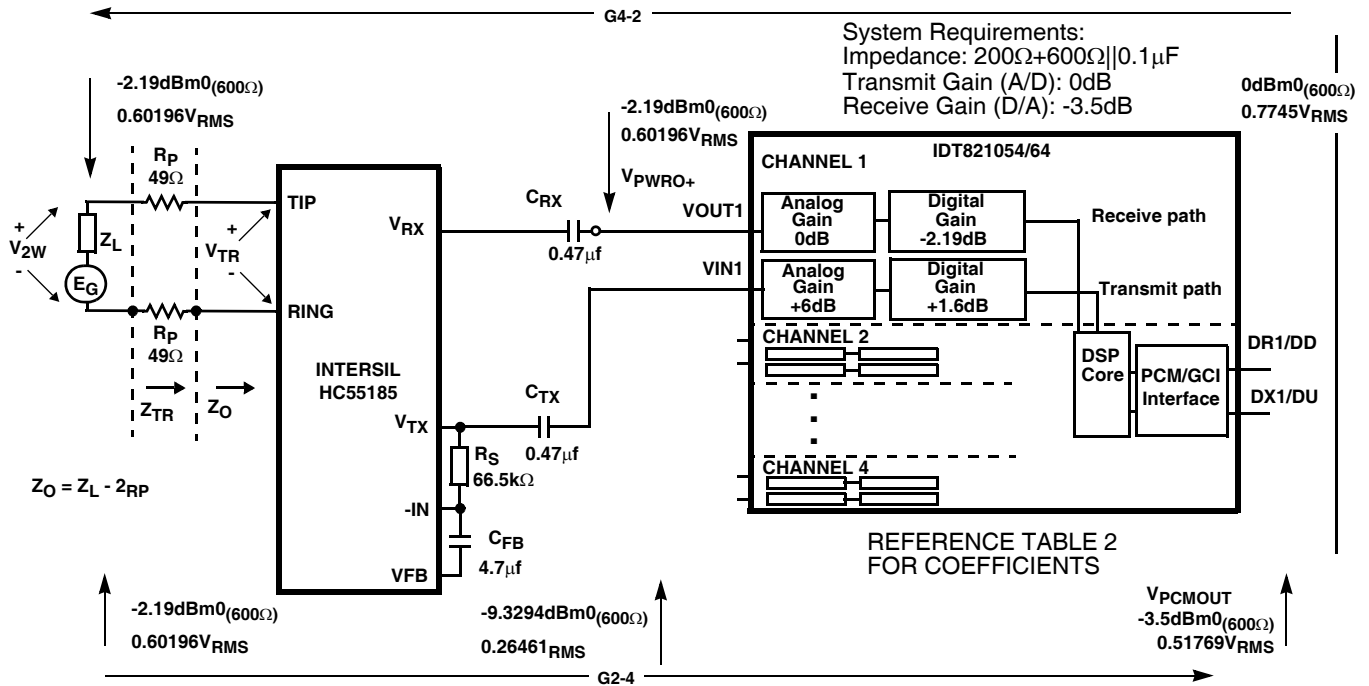

FIGURE 6. REFERENCE DESIGN OF THE HC55185 AND THE IDT821054/64 WITH CHINA COMPLEX LOAD IMPEDANCE
- Figure 6 gives the reference design using the Intersil HC55185 and the IDT821054/64 Programmable Quad PCM CODEC. Also shown in Figure 6 are the voltage levels at specific points in the circuit. Note: The transmit gain of the system is 0dB ($-2.19\text{dB}_{(811\Omega)}$) = $-3.5\text{dB}_{(600\Omega)}$) as explained in the following section.